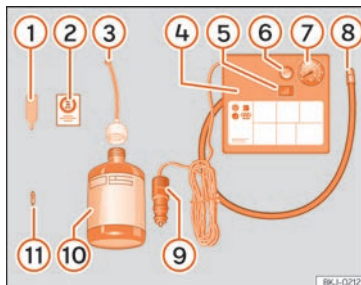

Fig. 41 Standard representation: anti-puncture kit contents.
» **Fig. 41:**
- Unscrew the tyre valve cap and insert. Use the » **Fig. 41** 1 tool to remove the insert. Place it on a clean surface.
- Shake the tyre sealant bottle vigorously » **Fig. 41** 10.
- Screw the inflator tube » **Fig. 41** 8 into the sealant bottle. The bottle's seal will break automatically.
- Remove the lid from the filling tube » **Fig. 41** 3 and screw the open end of the tube into the tyre valve.
- Place the insert back into the tyre valve using the tool »» Fig. 41 ①.
- Screw the compressor tyre inflator tube »» Fig. 41 ⑧ into the tyre valve.
- Check that the air bleed screw is closed »» Fig. 41 ⑥.
- Insert the connector »» Fig. 41 ⑨ into the vehicle's 12-volt socket »» page 159.
- Turn the air compressor on with the ON/OFF switch »» Fig. 41 ⑤.
- Attach the sticker »» Fig. 41 ② to the instrument cluster, within the driver's visual field.
Screw the inflator tube »» Fig. 41 ⑤ again and check the pressure on the gauge ⑥.